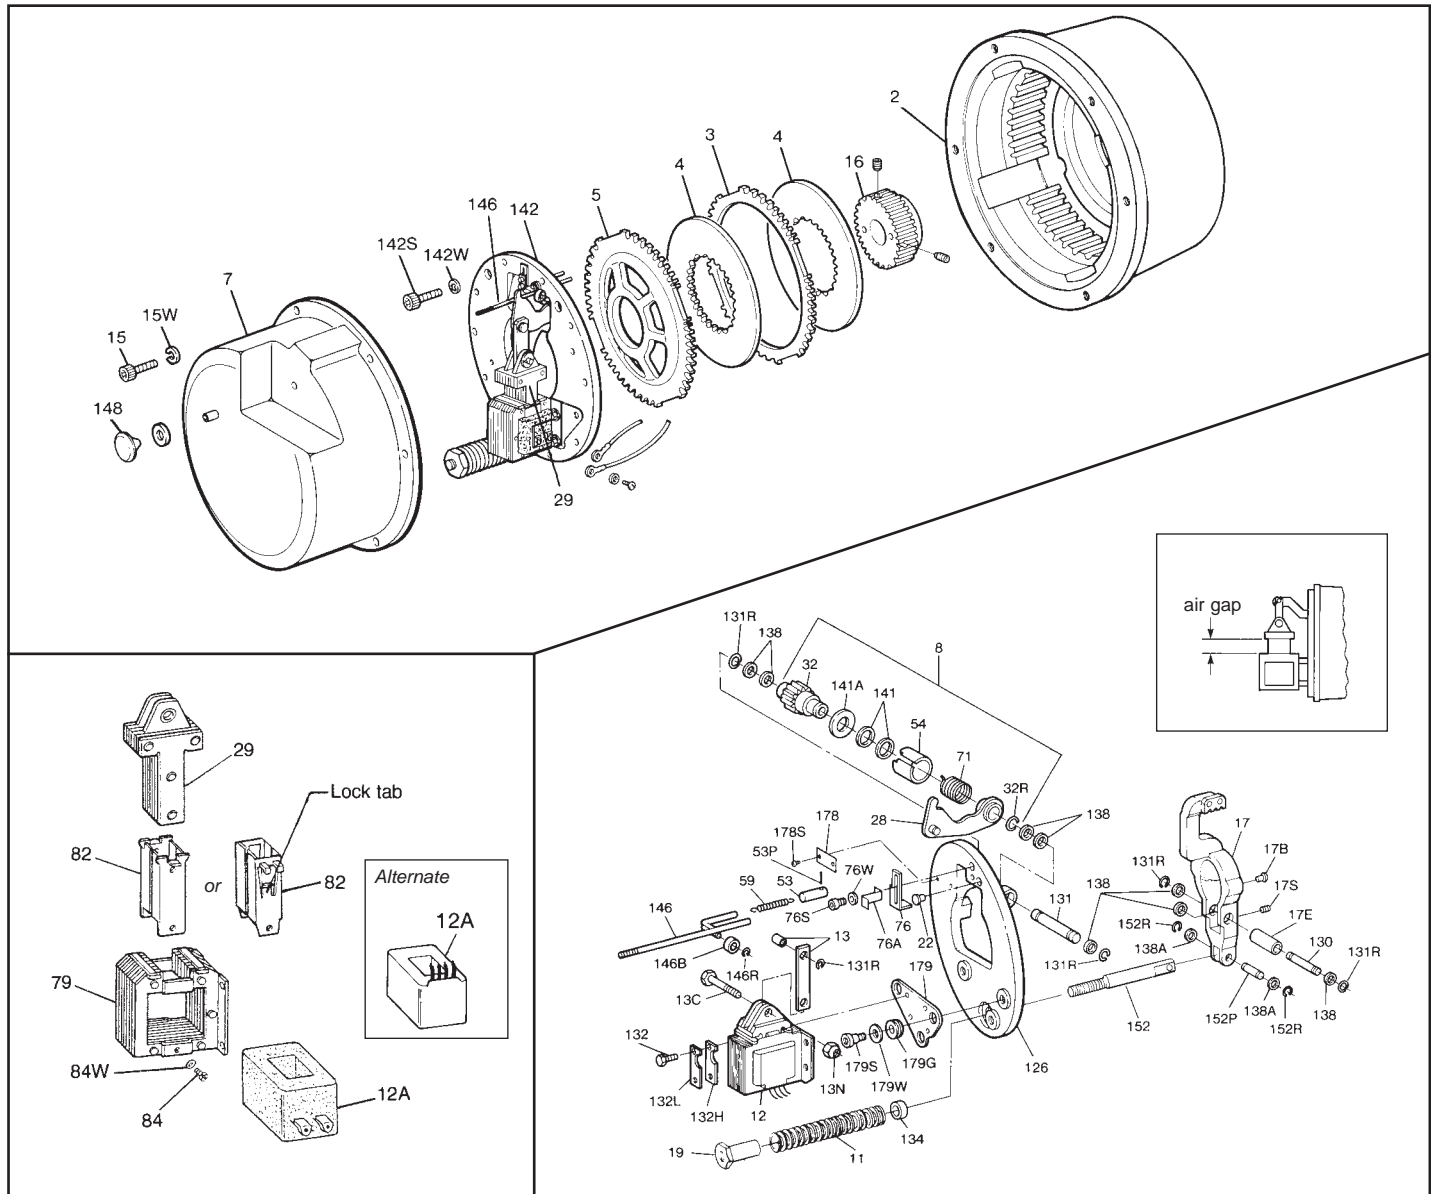

Figure 1
(See Figure 1)
The solenoid is factory set with a 1-3/8" to 1-7/16" air gap, and requires no resetting, even when changing friction discs. The air gap is determined by the position of the wrap spring stop (76). The air gap is measured between mating surfaces of plunger and solenoid frame. See Figure 1.